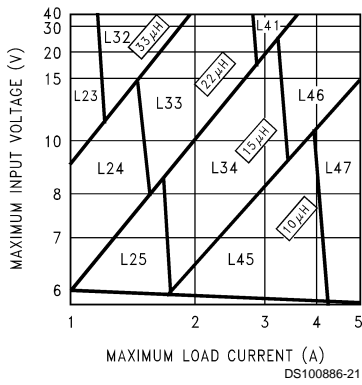
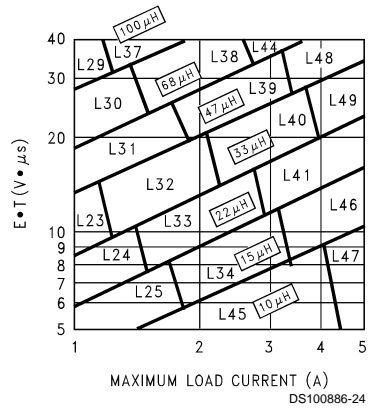

FIGURE 3. LM2678-3.3
FIGURE 6. LM2678-ADJ
Step 3: Determine the inductor required by using one of the four nomographs, *Figure 3* through *Figure 6*. Table 1 provides a specific manufacturer and part number for the inductor.
Step 5: Determine an input capacitor from Table 4 for fixed output voltage applications. Use Table 2 to find the specific capacitor type. For adjustable output circuits select a capacitor from Table 2 with a sufficient working voltage (WV) rating greater than $V_{in\ max}$, and an rms current rating greater than one-half the maximum load current (2 or more capacitors in parallel may be required).
Step 3: Use the nomograph for the 3.3V device, *Figure 3*. The intersection of the 16V horizontal line ($V_{in\ max}$) and the 4A vertical line ($I_{load\ max}$) indicates that L46, a 15 μ H inductor, is required.
Step 3: To use the nomograph for the adjustable device, Figure 6, requires a calculation of the inductor Volt•microsecond constant (E•T expressed in V•μs) from the following formula:
Using Figure 6, the intersection of 27V•μs horizontally and the 3.5A vertical line (I_{load max}) indicates that L48, a 47μH inductor, or L49, a 33μH inductor could be used. Either inductor will be suitable, but for this example selecting the larger inductance will result in lower ripple current.
Important Note: When using the adjustable device in low voltage applications (less than 3V output), if the nomograph, Figure 6, selects an inductance of 22μH or less, Table 6 does not provide an output capacitor solution. With these conditions the number of output capacitors required for stable operation becomes impractical. It is recommended to use either a 33μH or 47μH inductor and the output capacitors from Table 6.